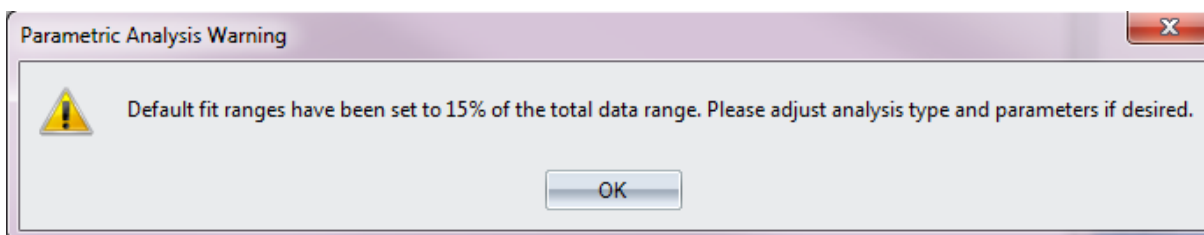

Figure 16: Pop-up when adding new Parametric Analysis warning that by default 15 % of the total data range is included in the analysis.
- 2) Click on the new parametric analysis under the **Analyses** node. A pop-up window will appear notifying that by default, 15 % of the total data range is included in the analysis (Figure 16).